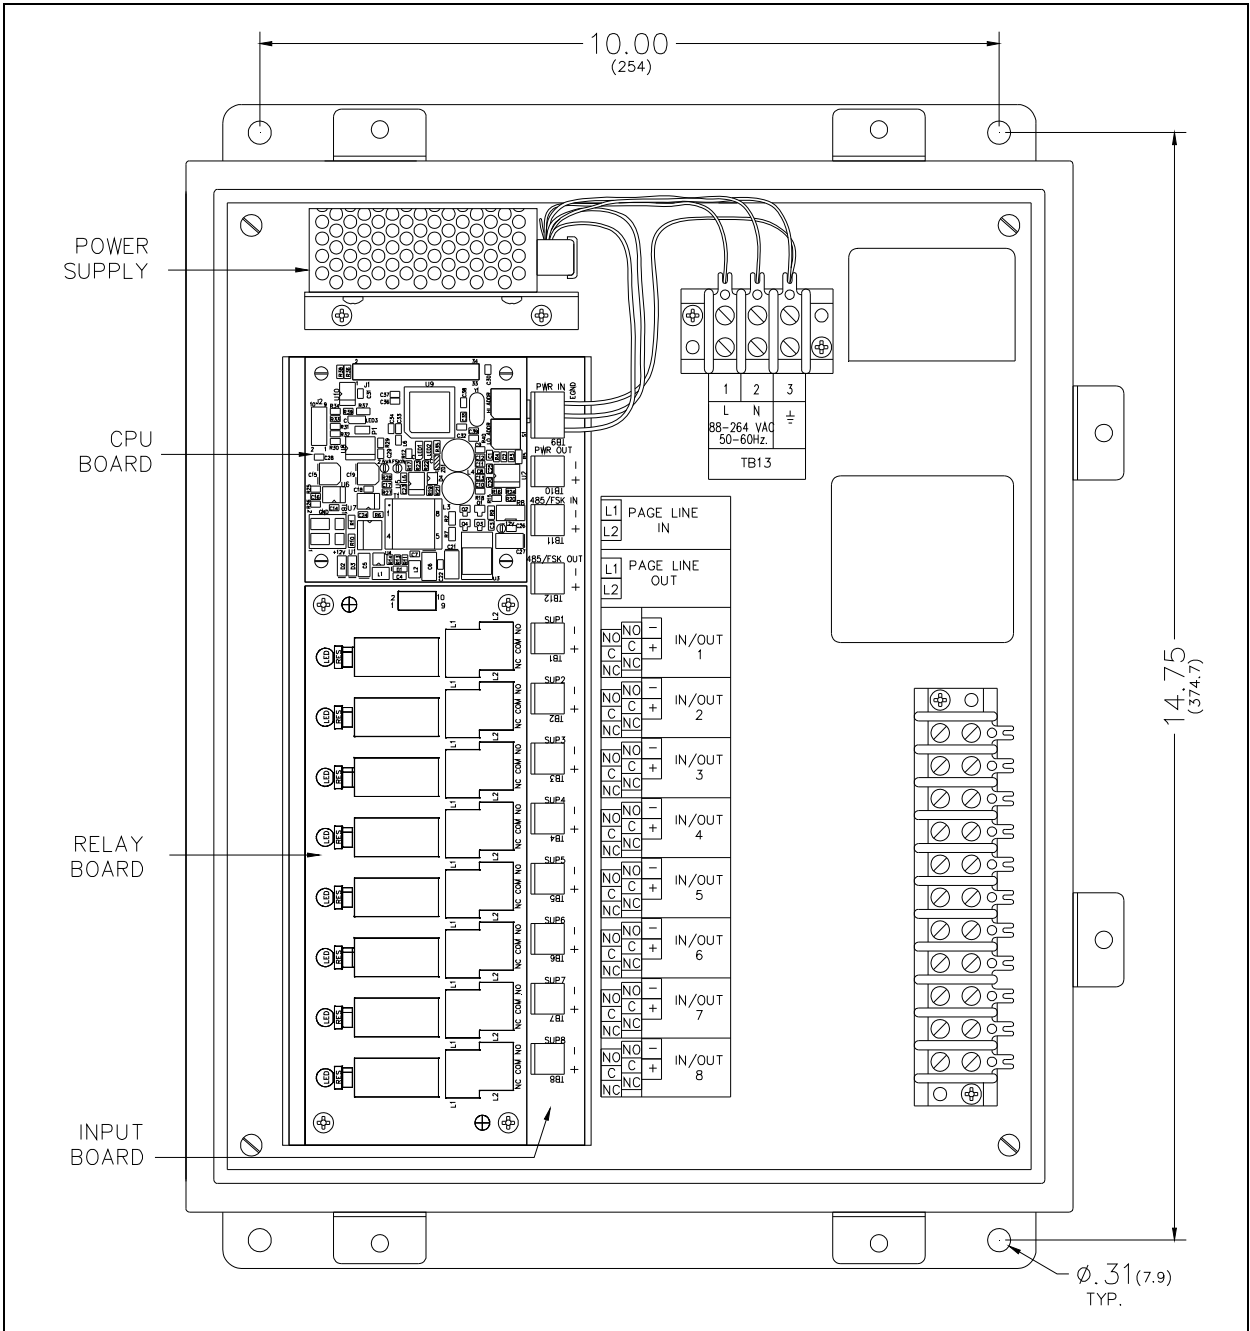
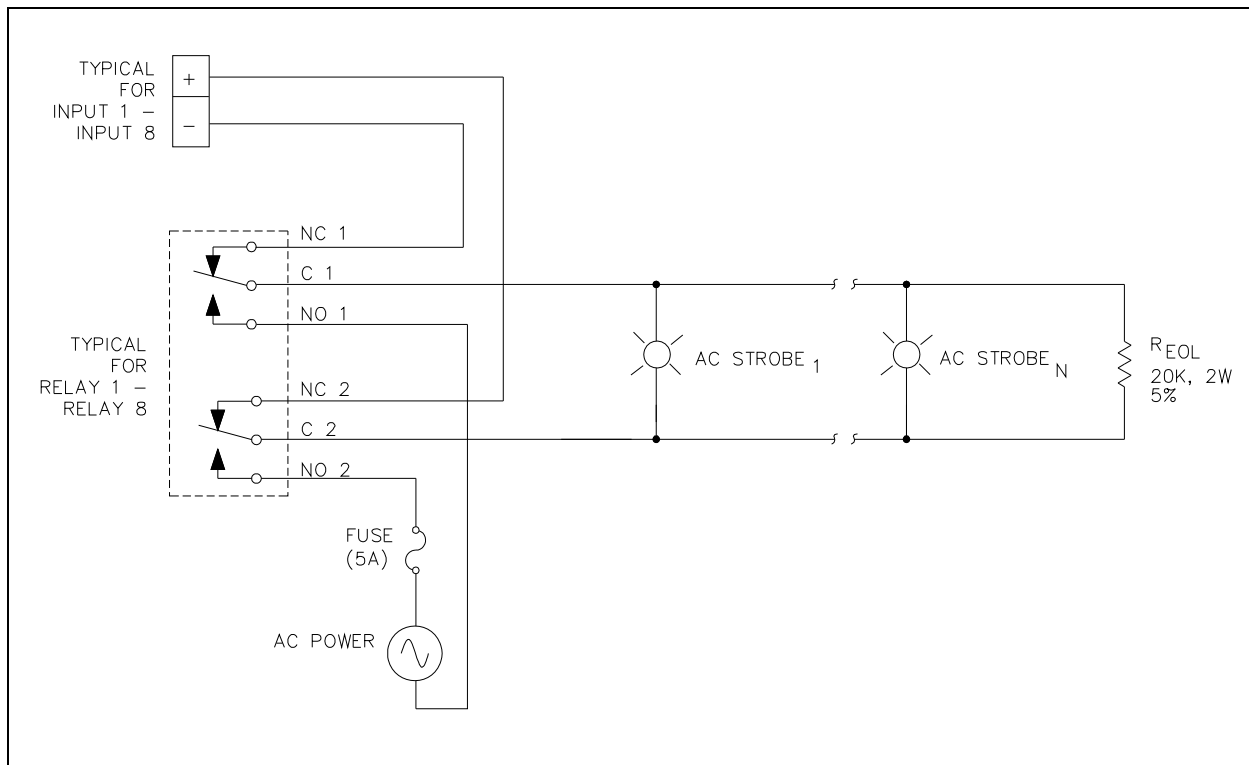
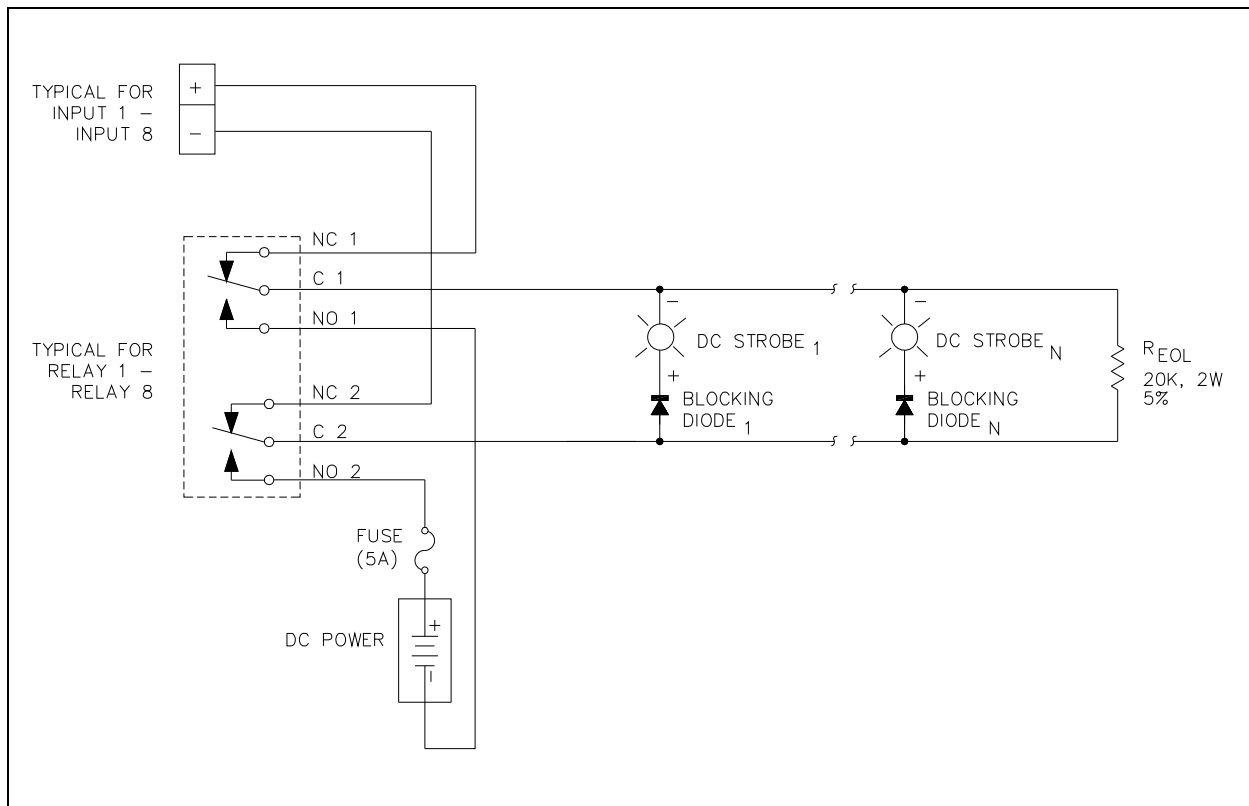

Figure 1. Model 379-001 MRM Station (Interior View)
Figure 5. Cable supervision for ac-powered strobes
Figure 6. Cable supervision for dc-powered strobes
The 12579-003 Monitored Relay Module is comprised of three components: the 69613-001TR CPU, the 69251-201TR Monitored-Input PCBA, and the 69252-001TR Relay PCBA. Refer to Figure 1 for component locations.
Mount the enclosure to a suitable surface using appropriate customer-supplied hardware. Refer to Figure 1 for mounting hole dimensions.
88 V ac to 264 V ac power is connected to terminal block TB13 at the top of the panel. Refer to Figure 1. AC power is accessed from the Page/Party® system cable per the following table.
The page line twisted pair in the Page/Party® system cable serves as the data line between the MRM and the ADVANCE system control cabinet. The page line connections are made to the MRM module per the following table. Refer to Figure 1 for terminal locations.
Input connections (from voltage-free contacts or switched 24 V dc voltage sources) are made to screw terminals TB1 through TB8 on the input PCBA. Refer to Figure 1 for terminal locations.
In this mode, multiple strobe lights may be installed across the common relay terminals. Total strobe current draw cannot exceed 5 amps. A 20-kilohm 2-watt resistor must be installed across the last strobe. The strobe power source is connected to the normally open relay terminals. The normally closed relay terminals are connected to the corresponding input terminals. (Relay 1 to Input 1, Relay 2 to Input 2, etc.) Refer to Figure 5 and Figure 6 below.
Field wiring connections are made to the screw terminals on the relay PCBA. Eight relays are available; each contains two type “C” contacts rated for 5 amps. The normally open (NO), common (C), and normally closed (NC) terminals are labeled on the relay PCBA. Refer to Figure 1 for terminal locations. Refer to Figure 5 for a typical beacon light connection diagram.